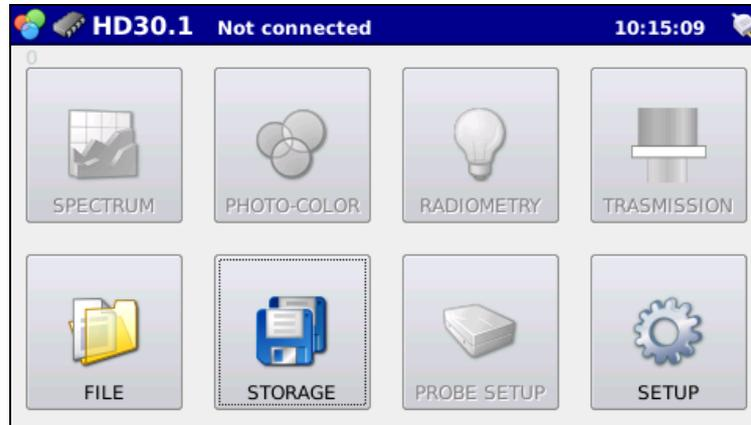
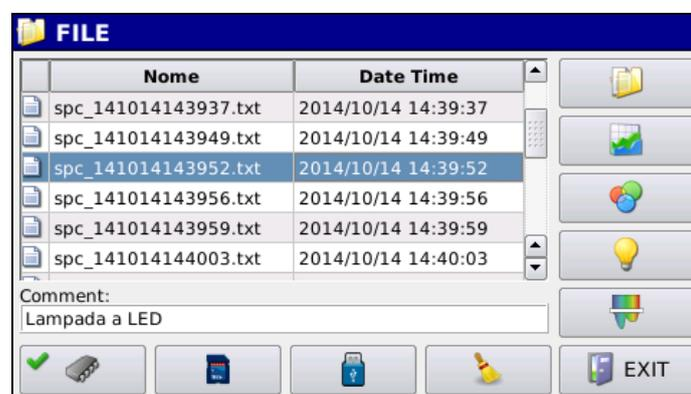
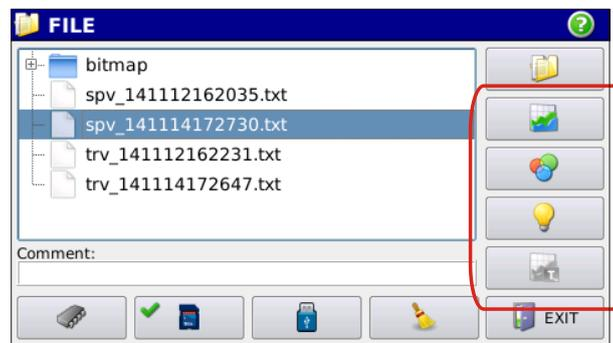

Fig. 4.1: STORAGE and FILE buttons allow measurements to be monitored and recalled.
Fig. 4.11: display of the measurements stored in one of the available memories (internal memory, μ SDcard, USB device).
Fig. 4.12: Data contained into selected file can be displayed by using the highlighted keys.
buttons in the main screen (fig. 4.1)
4.4 Press  to return to the main screen (Fig. 4.1).
4.5 Press  in the main screen to display stored measurements (fig. 4.1). Pressing the button will open the fig. 4.11 window.
4.5.1 Select the desired file. The selected file will appear on BLUE background (fig. 4.11); at this stage, the file can be displayed using the buttons on the right of the screen (fig. 4.12).
The arrows highlighted in figure 4.14 allow next measurement to be displayed directly with no need to go back to the FILE menu (fig. 4.11).
Press **EXIT** to return to the FILE menu (Fig.4.11).
Press  to return to the file handling page (fig. 4.11)